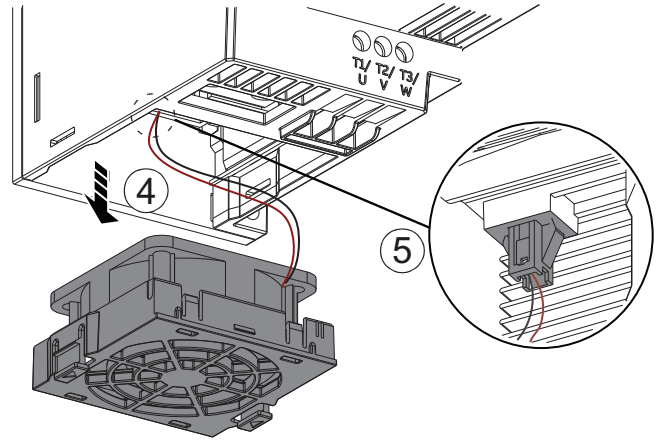

Fig. 67 — Disconnecting the Fan
4. Disconnect the fan power cable. See Fig. 67.